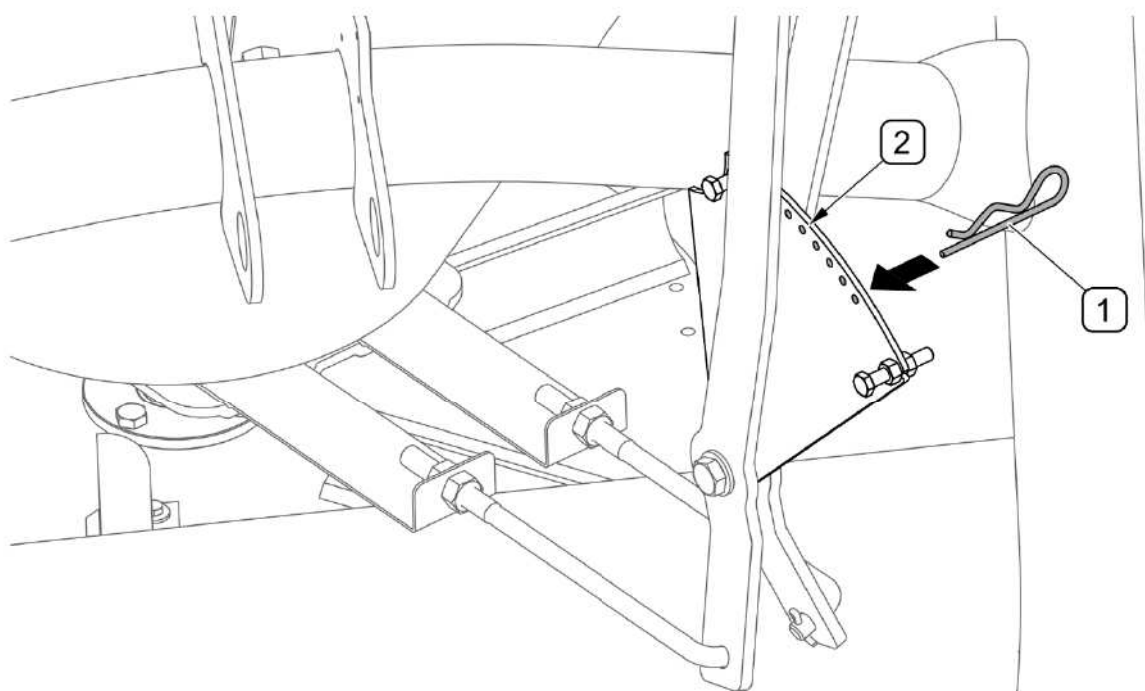

FIG. 4.7 Lever limiter (in FD1-M03L / M05L fertilizer spreaders)
(1) - cotter pin; (2) - disc with fixing holes
In FD1-M03L / 05L fertilizer spreaders (FIG. 4.7), the lever is limited by spring cotter pin (1), which is inserted into appropriate fixing holes on disc (2).